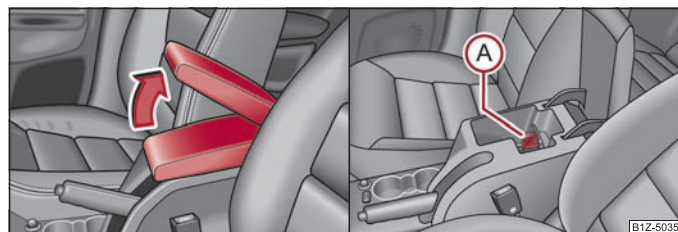

Fig. 97 Armrest: Storage compartment/cooling of storage compartment
- Open the lid of the armrest in the direction of arrow ⇒ fig. 97 - left.